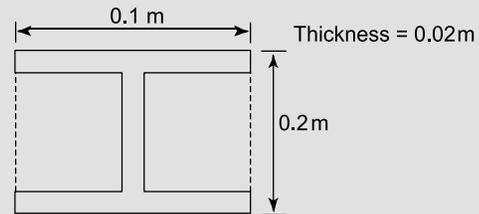

Figure 8.27
**Problem 16.** Determine the second moment of area about a horizontal axis passing through the centroid, for the *I* beam shown in Figure 8.27.